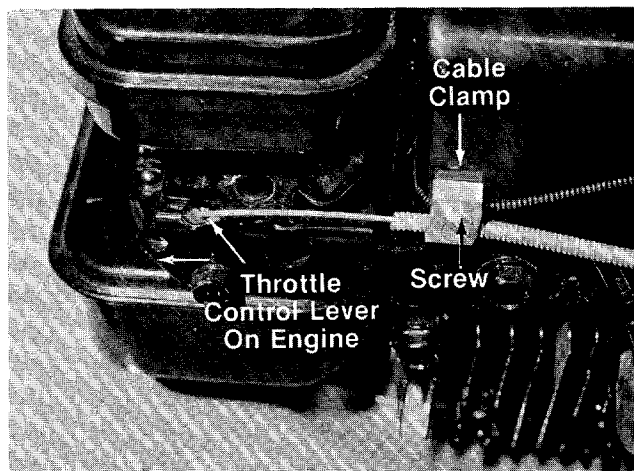

FIGURE 7.
10. Push the throttle control lever on the engine to the full open position (as far toward the outside of the unit as it will go) as shown in figure 7.
12. Loosen (do not remove) the screw on the cable clamp shown in figure 7. Slip the control casing under the clamp. With the throttle lever on the engine still in the full open position, tighten the screw to secure the throttle control cable.